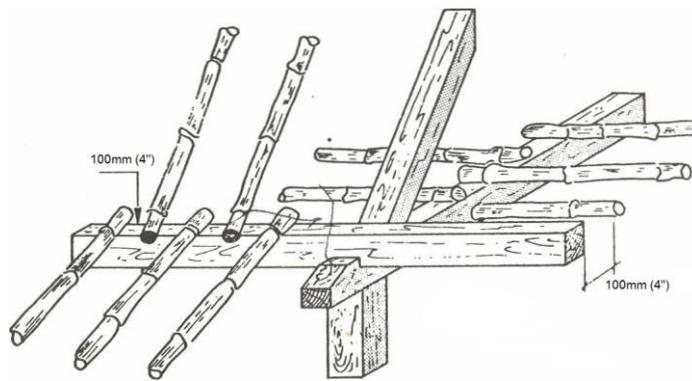

Figure 2c. Side purlin – correct method front view.
- ii. Fig. 2c applies to wooden rafters only. These should be no more than 50 mm (2") wide and not less than 2" thick. The side surfaces of the roof should be whitewashed over a width of at least 750 mm (2' 6") on both sides of the valley for better rat control as these places are usually rather dark.